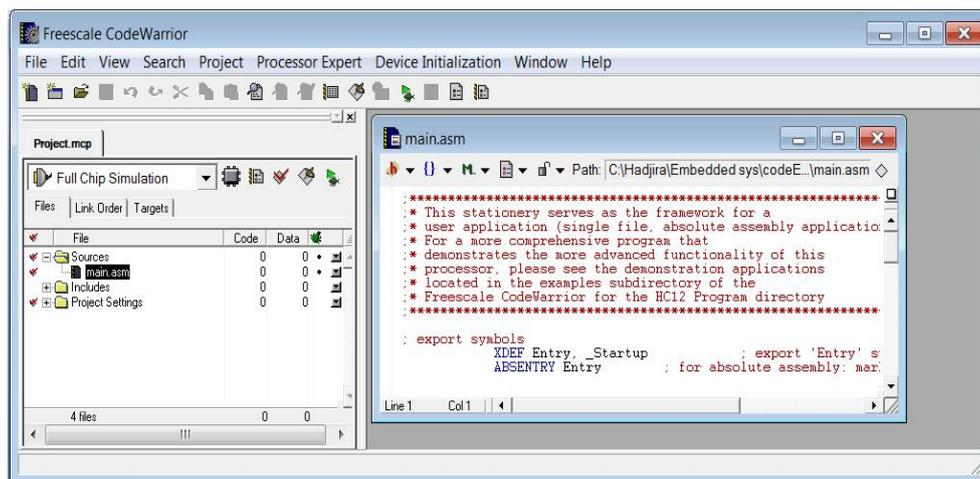

Figure 1: CodeWarrior screen after project setup.
Step 6: Click on Finish to complete the project setup. The resultant Screen is shown in Figure 1.